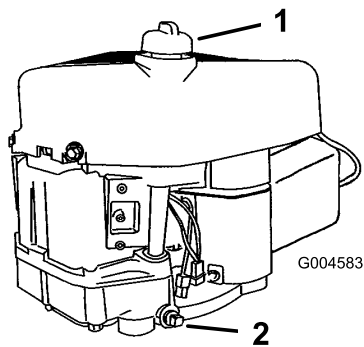

Figure 18
8. Clean around the oil dipstick (Figure 18) so that dirt cannot fall into the fill hole and damage the engine.
11. Slowly pour about 80% of the specified amount of oil into the fill hole (Figure 18). Check the oil level; refer to Checking the Oil Level.